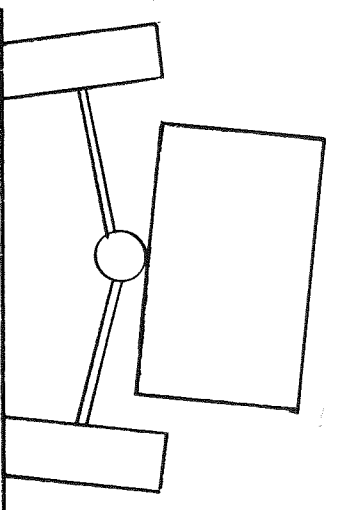

Fig. 10. Instability
5. FIG. 10 Jacking continues, and the outside wheel continues to change camber, appearing to drop down or 'tuck under'. The cornering ability of the wheel is severely reduced since it is now cambered in the wrong direction. Although still cambered in the correct direction, the cornering ability of the inner wheel is now considerably reduced; it may even have lost contact with the road. The car feels very unstable and the car suddenly switches to strong OVERSTEER, causing the rear to break away and 'hop out'.